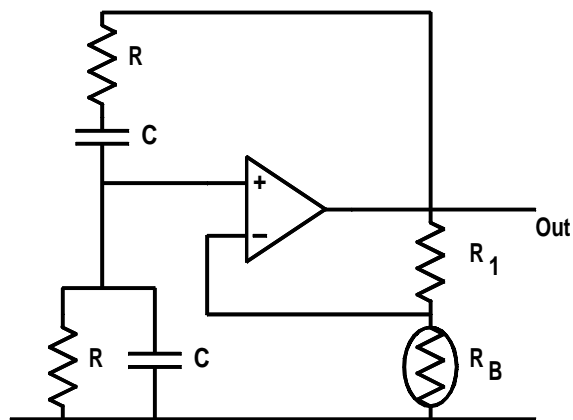

Figure 53.6: Wein bridge oscillator.
The circuit in Figure 53.6 shows how the op-amp is set up with a Wein bridge. The output from the op-amp is fed back through the bridge with the output of the bridge going to the noninverting positive feedback input to the op-amp in order to give oscillation. The resistor, R_1 , and the bulb resistor initially give very small amounts of negative feedback which allows the oscillator to start oscillating. The bulb resistance at this time is low because there is no current through the bulb at the start.
53.2 Design a Wein bridge oscillator for a fixed frequency of oscillation of 2000 Hz using the circuit in Figure 53.6.